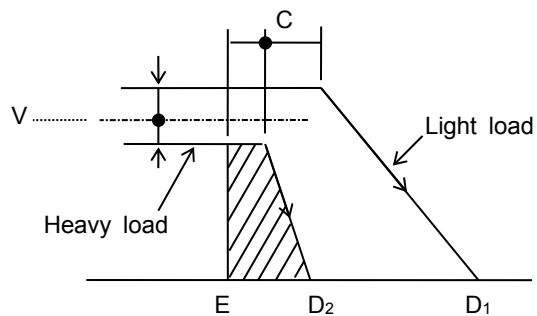

Figure 2.2 Variations in coasting distance
After operation of the limit switch, the coasting distance is equivalent to the area CDE, and the stopping precision becomes the variations in this area CDE. The factors (causes of variations in area CDE) affecting stopping precision are, stop time (ED) changes (load torque fluctuations or brake torque fluctuations), as shown in Figure 2.2, speed fluctuations of moving objects at point C, and variations in the sensor operating position at point C as well as variations in delay time until the start of actual motor deceleration due to sensor operation. These variations in characteristics certainly need to be reduced, but the most effective method would be to reduce the V speed. Thus, when the stopping precision is not satisfactory during stopping from normal speed, a general method is to set a limit switch for low speed switching as shown in Table 2.1 and to stop once the speed is lowered. This method is simple and widely used to increase the precision. However, a drawback is that if the specified time (called creep speed) at low speeds is inadequate, the speed while passing the stop limit switch will be unstable due to load fluctuations, and it will take time for positioning. Also, if the stop positions are increased, a larger number of sensors will be required.
(2) Pulse count method